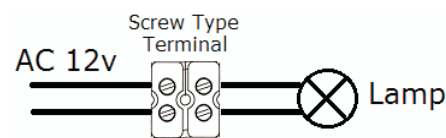

Figure 2-1
- 3) Terminal blocks must meet the IEC60988-2-1 standard having the rated connecting capacity of 4,0mm² use of screw-type terminal at least 25A rated current ,mounted on junction boxes inside. See Figure2-1